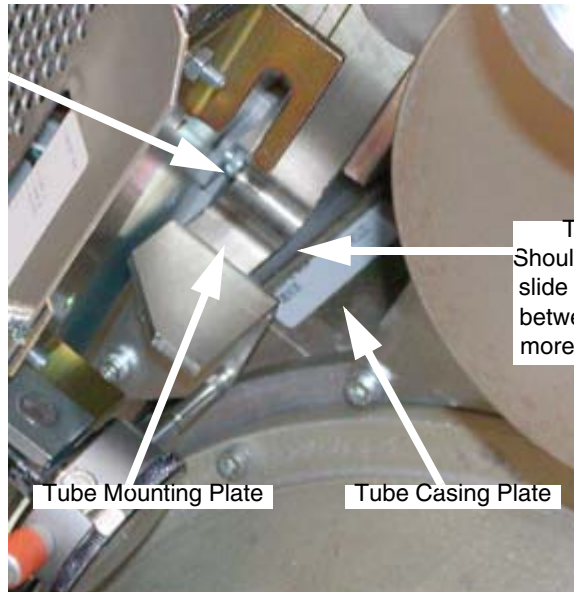

Figure 11 - Tube casing and Mounting plates
- b.) Take a piece of paper and try to insert it between the tube casing plate and the tube mounting plate. Do NOT check between the mounting plate and collimator. See Figure 11 below.